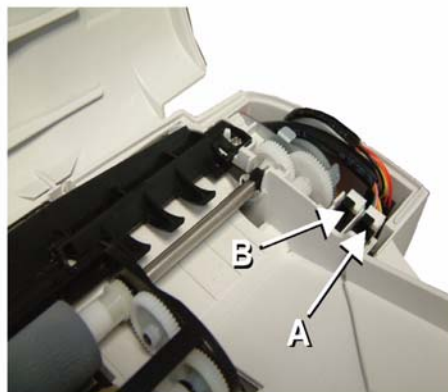

Figure 5
4. Disconnect the ADF cover sensor connector (A) and the paper sensor connector (B), Figure 5.